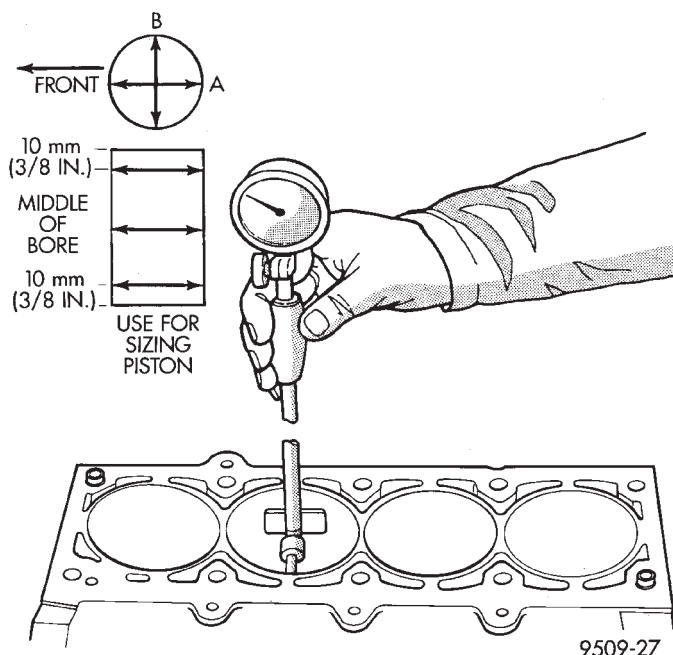

Fig. 74 Cylinder Bore Measurement
(1) It is mandatory to use a dial bore gauge to measure each cylinder bore diameter (Fig. 74). To correctly select the proper size piston, a cylinder bore gauge, capable of reading in 0.003 mm (.0001in.) INCREMENTS is required. If a bore gauge is not available, do not use an inside micrometer.
(2) Measure the inside diameter of the cylinder bore at three levels below top of bore. Start perpendicular (across or at 90 degrees) to the axis of the crankshaft and then take two additional reading.
(3) Measure the cylinder bore diameter crosswise to the cylinder block near the top of the bore. Repeat the measurement near the middle of the bore, then repeat the measurement near the bottom of the bore.
(4) Determine taper by subtracting the smaller diameter from the larger diameter.
(5) Rotate measuring device 90° and repeat steps above.